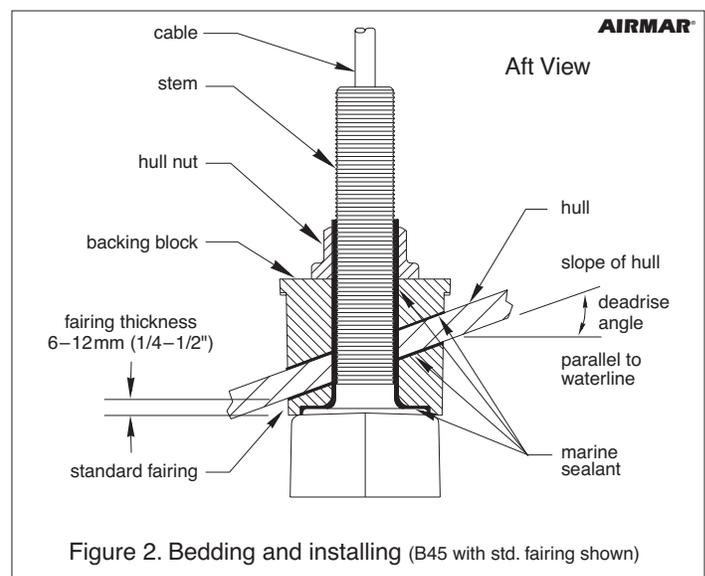

Figure 2. Bedding and installing (B45 with std. fairing shown)
A backing block is mounted inside the hull to provide a level surface for the hull nut to seat against (see Figure 2). It is fabricated matching the interior deadrise angle of the boat. After cutting an Airmar fairing, use the remaining section with the cutting guide for the backing block.
1. Drill a 3mm or 1/8" pilot hole perpendicular to the waterline from inside the hull (see Figure 2). If there is a rib, strut or other hull irregularity near the selected mounting location, drill from the outside.
1. Measure the deadrise angle of the hull at the selected location using a digital level, or bubble level and protractor (see Figure 2)
4. Adjust the cutting fence. The fairing *must* be between 6–12mm (1/4–1/2") at its thinnest dimension (see Figure 2).
1. Remove the hull nut (see Figure 2 or 5).
3. From inside the hull, slide the backing block (if used) and hull nut onto the cable. Seat the backing block against the hull. Screw the hull nut in place and tighten it with slip-joint pliers (see Figure 2 or 5).